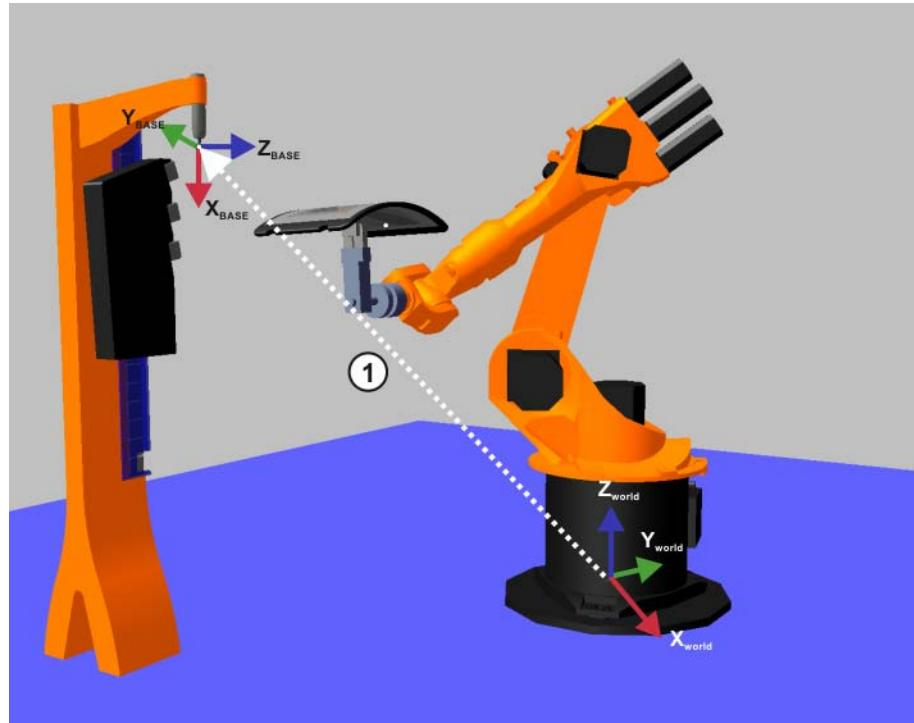

Fig. 10-3: Calibration of the fixed tool
As illustrated in (1) (>>> Fig. 10-3), the external TCP is managed relative to \$WORLD (or \$ROBROOT), i.e. in the same way as a base coordinate system.